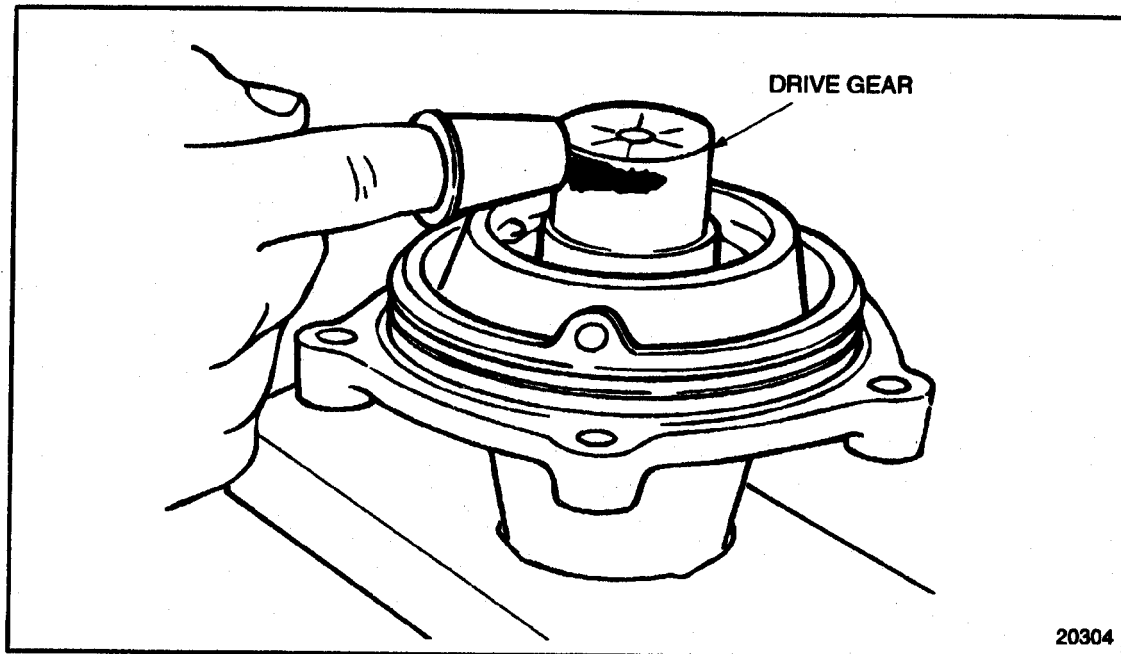

Figure 1-420 Drive Gear Installation Preparation
14. A film of lubriplate must be applied to the drive gear end of the accessory drive shaft. See Figure 1-420.